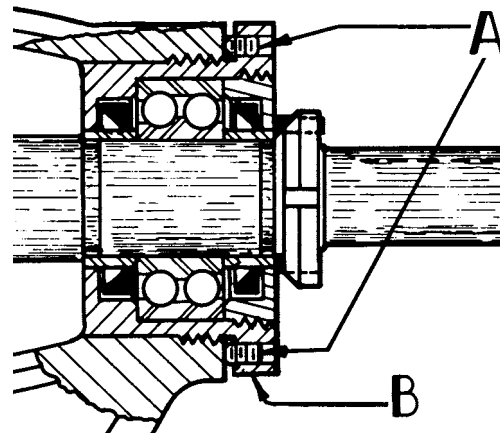

FIGURE 5
8. Loosen two axial set screws in bearing housing flange and remove housing from bracket. Examine lipseals in end cap and bearing housing and replace with lips facing as shown in **Figure 5** if not in first class condition.